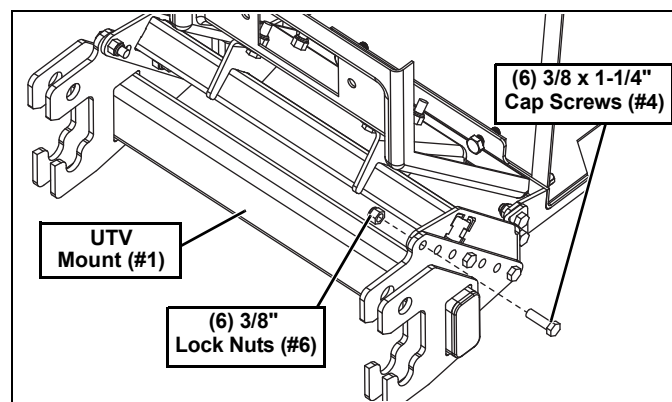

Figure 11
13. Secure UTV Mount (#1) with (6) 3/8"-16 x 1-1/4" Cap Screws (#4) and (6) 3/8"-16 Lock Nuts (#6). Tighten all hardware.(See Figure 11.)